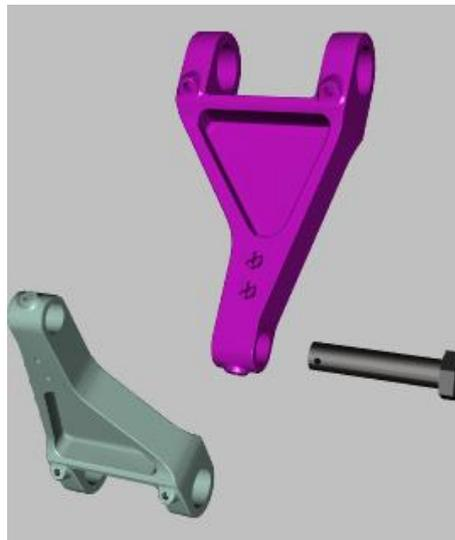

Fig. 5
4. Finish the explosion. The grouped Items remain unexploded (see Fig. 5).